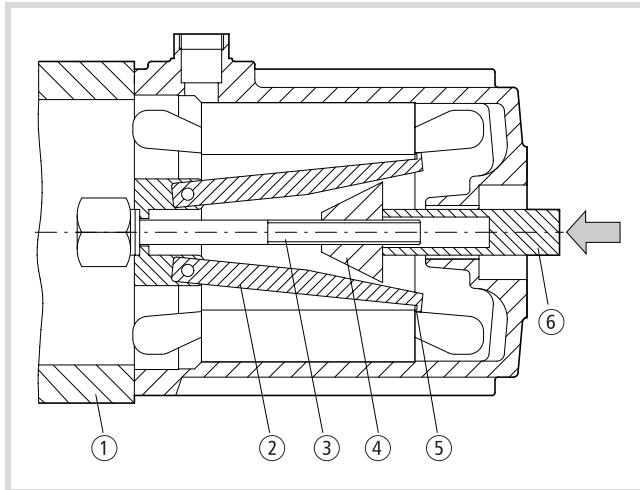

Figure 17: Removal device for stator cores
- Rotate the spindle (3). This will cause the arms (2) (→ Fig. 17) to spread.